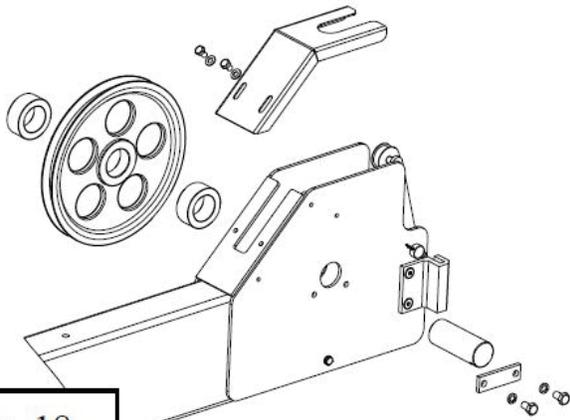

Fig. 18
- Install the pulley and the nylon spacers on the rear beam as shown in fig.18.